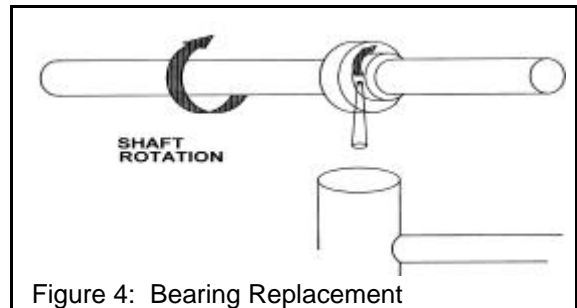

Figure 4: Bearing Replacement
- 8 To reinstall replacement ball bearings press the locking collar against the inner ring of the bearing and turn in the direction of the shaft rotation until engaged. Insert a drift pin into the pin hole and tap lightly to set. Tighten set screw on locking collar firmly (see Figure 4).